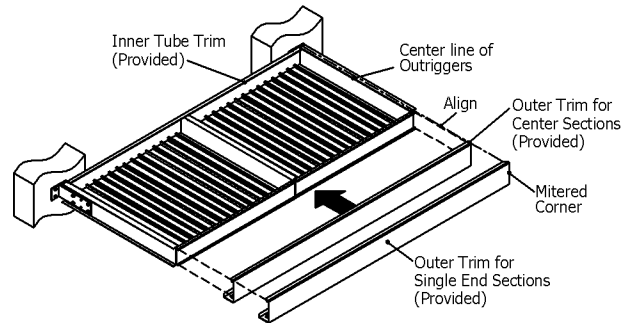

FIGURE 2-A
2. Install the front trim onto the panels (see Figure 2-A). End sections require a mitered corner front trim section. Center sections have straight cuts on both ends. The end of the trim must align with the center line of the outriggers. The trim snaps onto the edge of the panels. Insure that the trim is properly seated onto the panel frames before continuing.